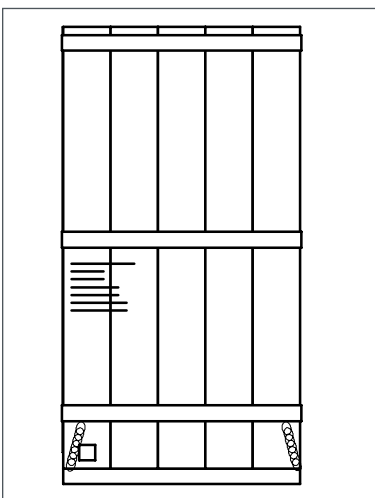

Fig. 3.2
- For sea transport, the units are packed in sealed aluminium foil with desiccant and in a closed wooden case with tightly closed wooden base (also for container transport, Fig. 3.2).
- In case of air transport, the panels are packaged in wooden crates with a protective PE film hood (dust protection) or in wooden crates, also with closed wooden bases, however without protective hoods (dust protection, Fig. 3.2).